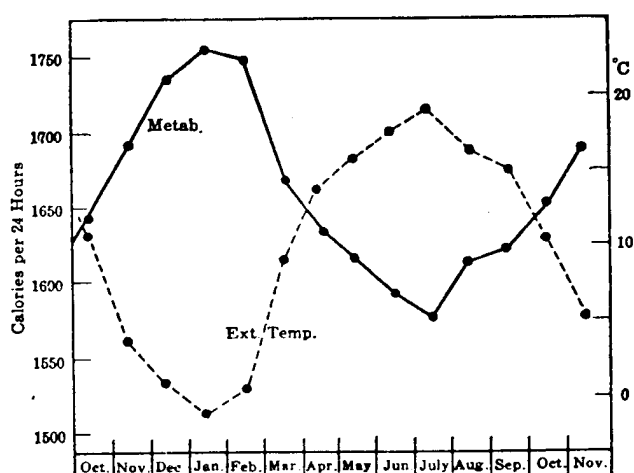

Figure 169.1 Temperature and metabolic rate
1. This question refers to Figure 169.1